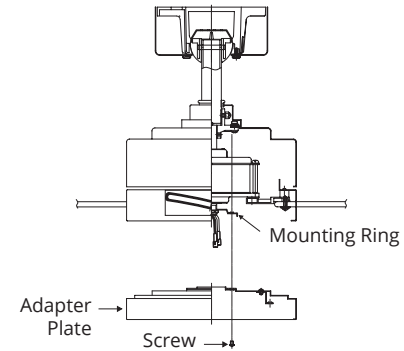

FIG. 18
2. Place the key holes in the mounting plate over the two screws previously loosened from the mounting ring. Turn the mounting plate until the adapter plate locks in place at the narrow section of the key holes (FIG. 18).